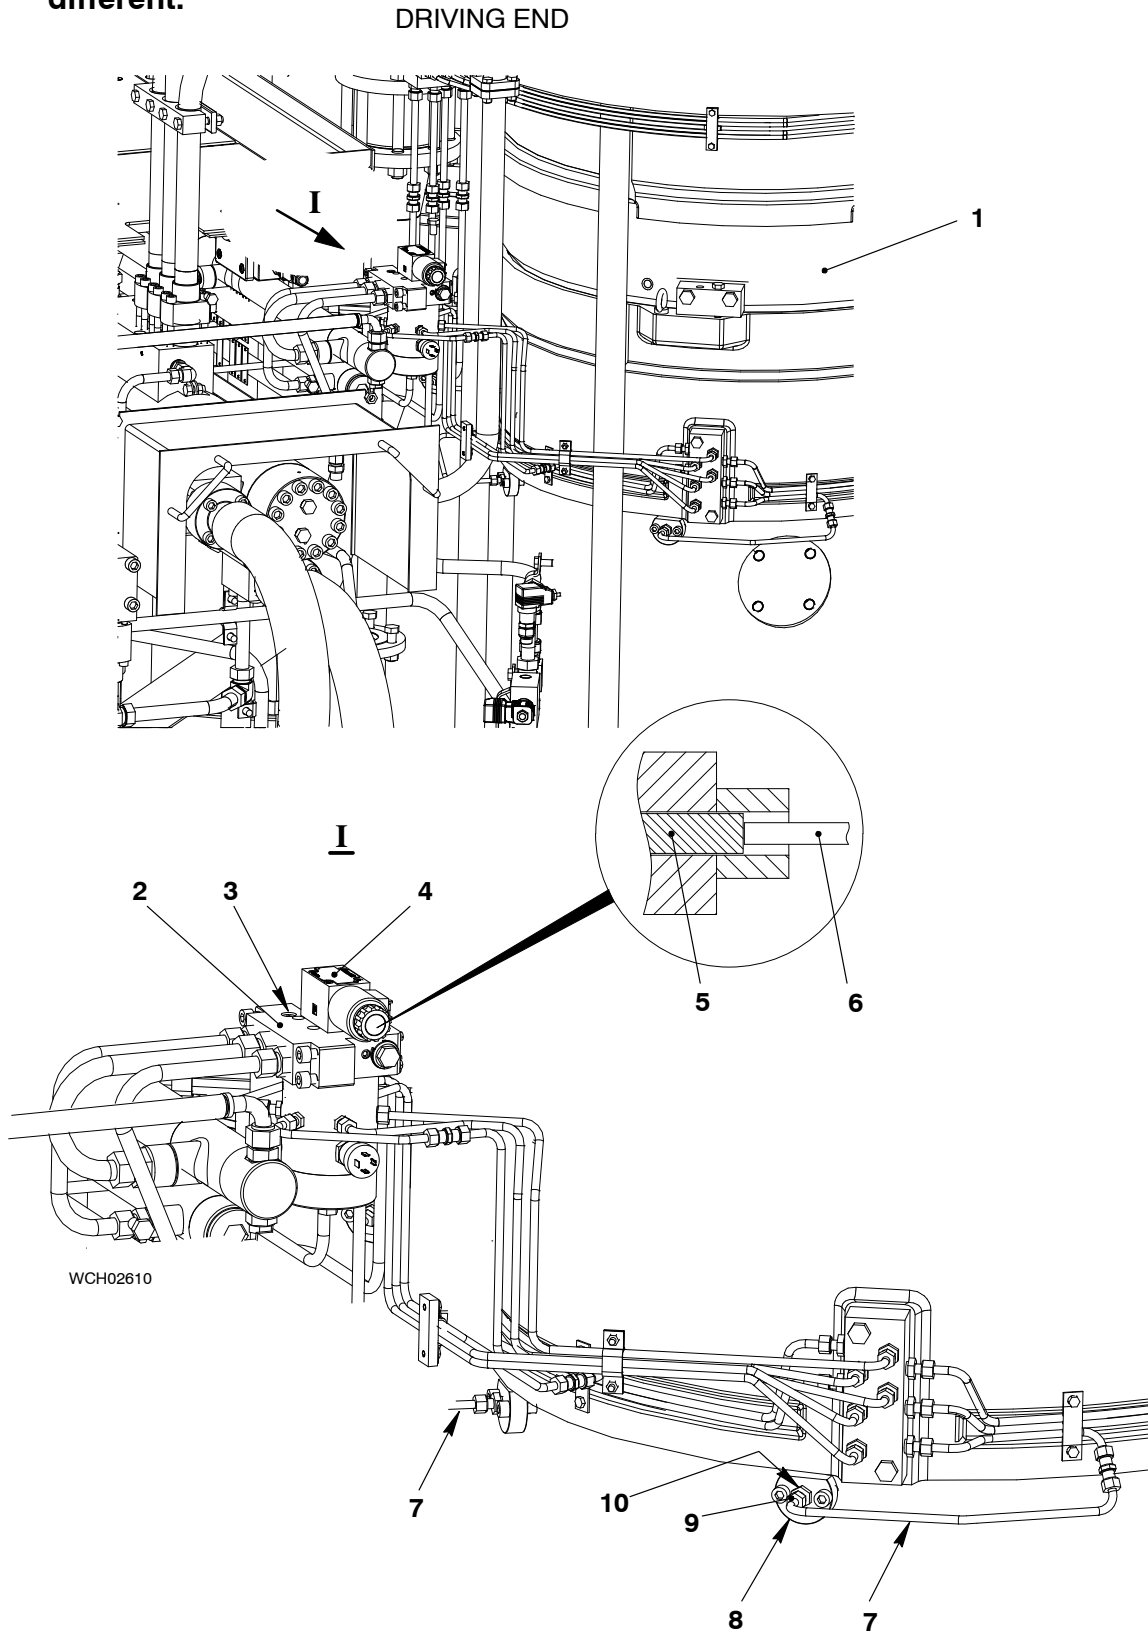

Fig. 1: Cylinder Lubrication Pump - Location
Note: You can operate the 4/2-way solenoid valve (4, Fig. 1) to release manually one lube pulse.
- a) Use a pin or a screwdriver (6, Fig. 1) to push in the plunger (5) of the 4/2-way valve (4).
- 8) If necessary, bleed the cylinder lubricating pump (2) and the oil lines (7) (refer to paragraph 3).